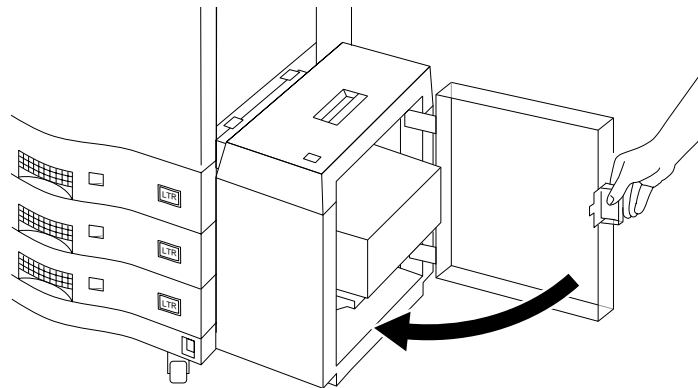

Figure 3-46 Closing the HCI door
3. Close the HCI door as shown in Figure 3-46. The paper rises up to the operating position automatically.